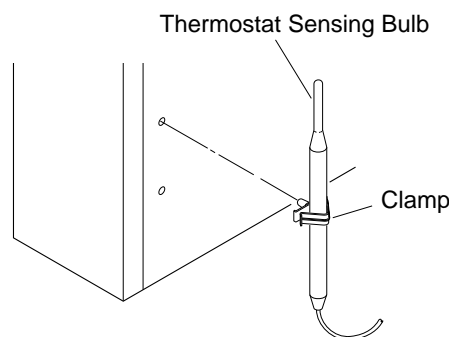

Figure 10 - Attaching Thermostat Sensing Bulb
2. Place clamp on thermostat sensing bulb as shown in Figure 10. Clamp is provided in hardware package.
3. Snap clamp into upper mounting hole as shown in Figure 10. Mounting hole is located on lower left edge on back of heater. Make sure the thermostat sensing bulb is pointing up.